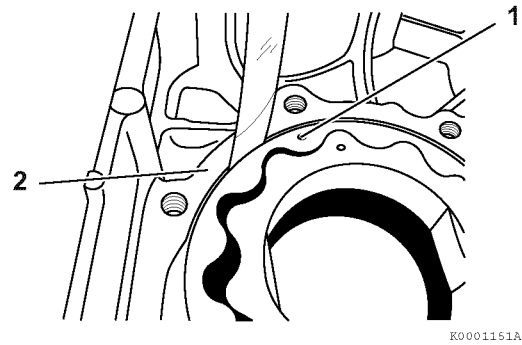

Figure 9-8
- Determine the outside clearance of the outer rotor. Insert a feeler gauge between the outer rotor (Figure 9-8, (1)) and the gear case oil pump cavity (Figure 9-8, (2)).